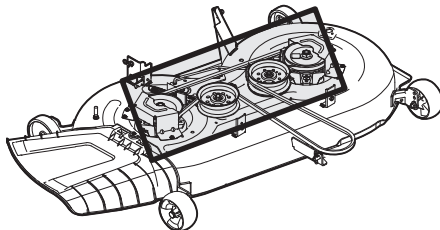

Figure 31
- Clean the top of the tractor deck, under the spindle covers and belt area. See Figure 31.